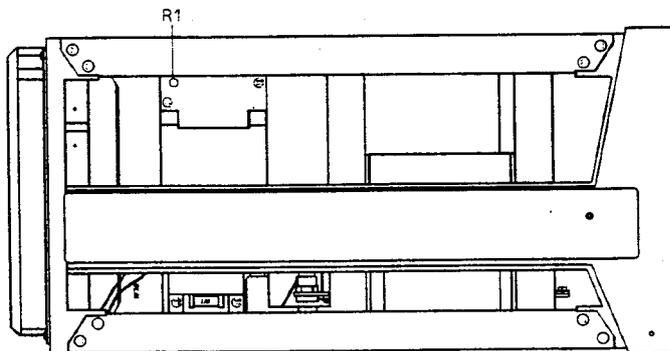

Fig. 4-1 Location of the potentiometer R1 (lateral view of instrument)
- ▶ Adjust the frequency accuracy to  $10 \text{ MHz} \pm 1 \text{ Hz}$  using the potentiometer R1 (accessible via the bore in the cover of the oven-controlled crystal oscillator module, cf. fig. 4-1).